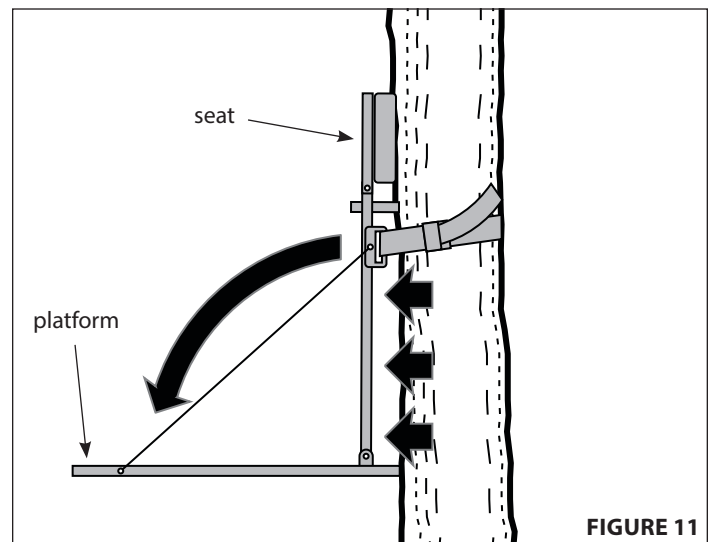

FIGURE 11
e. Once securely attached, pivot the platform down. This lever-action will snug stand up tight to tree to prevent any shifting. Redo as necessary to accomplish a snug stand-to-tree fit. All four contact bars must be touching tree! **SEE FIGURE 11**
2. Before stepping down onto center of stand platform, be sure it is secured properly and is tight against tree with all (4) contact bars touching tree!